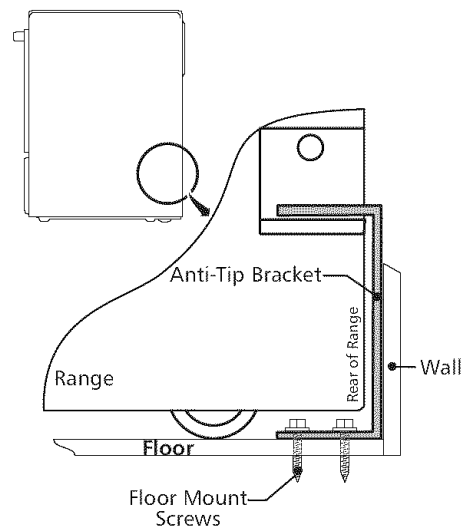

Figure 13
4. Remove template and place bracket on floor. Line up holes in bracket with marks on floor and attach with 4 screws provided. Bracket must be secured to solid floor (Figure 13). If attaching to concrete floor, first drill 3/16" (0,48 cm) dia. pilot holes using masonry drill bit.